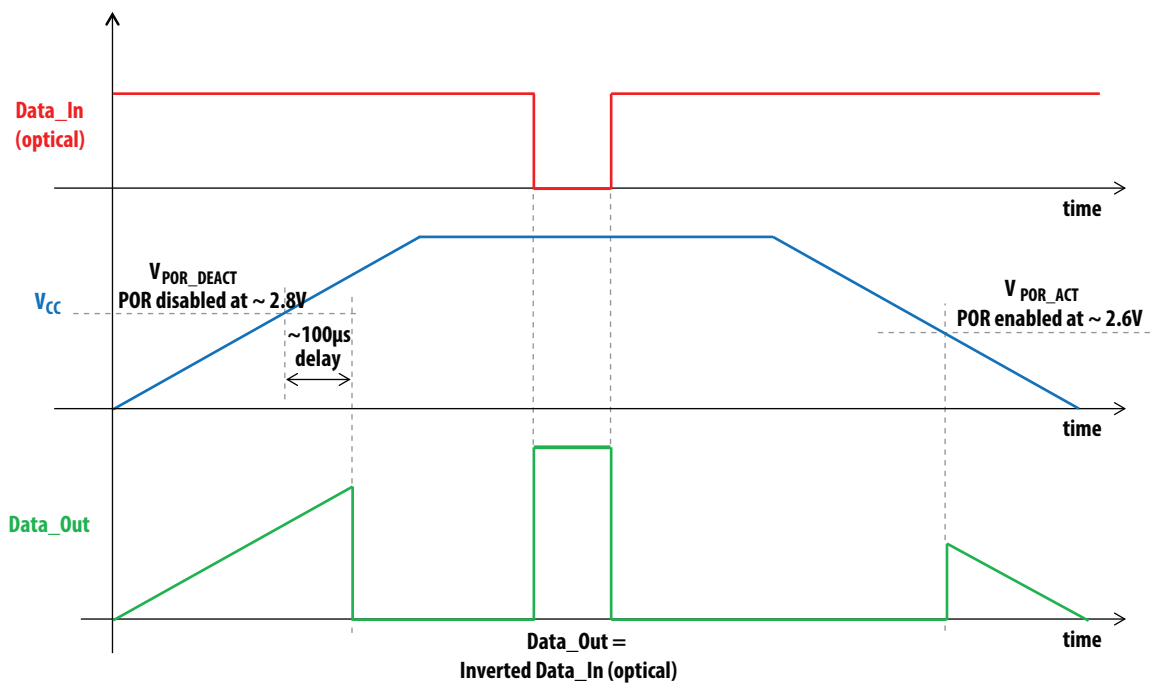

Figure 5. Typical functionality of Power-on reset (POR)
8. Power-on reset (POR) is active below V_{POR_DEACT}. Once V_{POR_DEACT} is reached the POR remains active for t_{POR_DEACT_DEL}. During power down POR starts at V_{POR_ACT}. Refer to figure 5 (next page).